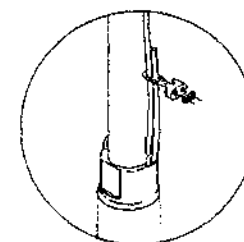

Fig. 10
- When plastic pipe is used, a stainless steel safety wire is recommended for lowering and lifting the pump. Fasten the wire to the eyelet on the pump, as shown in fig. 10.